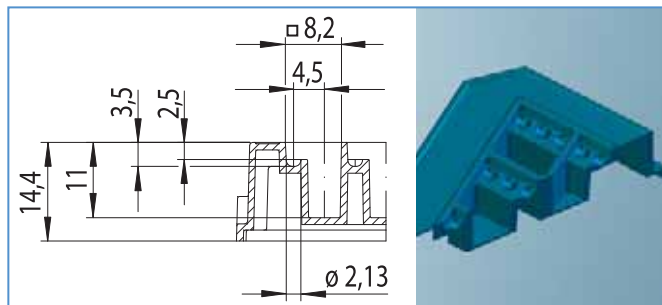
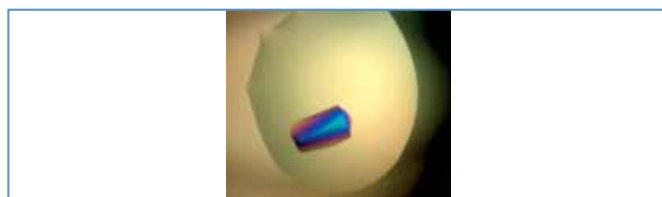

Figure 3: Well profile, CrystalQuick™ RW
Figure 4: Protein crystal in CrystalQuick™ RW, the image was kindly supplied by B. Blattmann, NCCR Structural Biology, Switzerland
LBR (low birefringence) plates are specifically designed for the use of polarised light. LBR plates for sitting drop applications are made from polyolefin which is characterised by very low birefringence in comparison with polystyrene plates (Fig. 3). Extreme transparency, high chemical resistance and low water absorption are further characteristics of LBR plates.
Figure 3: CrystalQuick™ plates in polarised light: (a) Standard versions with strong birefringence, (b) LBR versions with lower birefringence. (1) CrystalQuick™ RW (2) CrystalQuick™ SW (3) CrystalQuick™ LP
### CrystalQuick™ RW (Round Wells Fig. 3, Fig. 4)